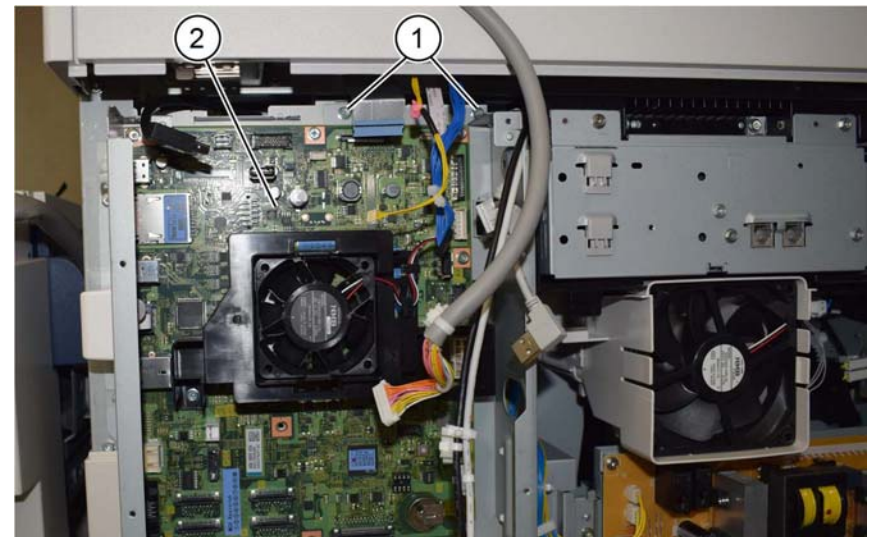

Figure 14 ESS PWB chassis assembly removal
17. Remove two screws (1), then the ESS PWB chassis assembly (2), Figure 14: